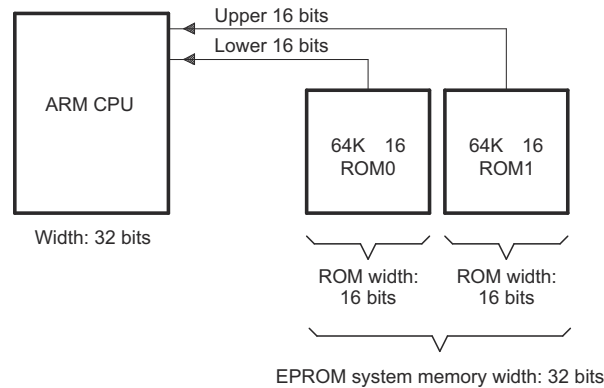

Figure C-5. EPROM Memory System for Scenario 3
Scenario 3 shows how to build the hex conversion command file for converting a object file for the memory system shown in Figure C-5. In this system, there are two external 64K × 16-bit EPROMs interfacing with the TMS470 target processor. The application code and data will be burned on the EPROM starting at address 0x20. The application code will be burned first, followed by the data tables.
- In the memory system outlined in Figure C-5, the EPROM system memory width is 32 bits because each of the physical ROMs provides 16 bits of a 32-bit word. Because the EPROM system memory width is 32 bits, the memwidth value must be set to 32.